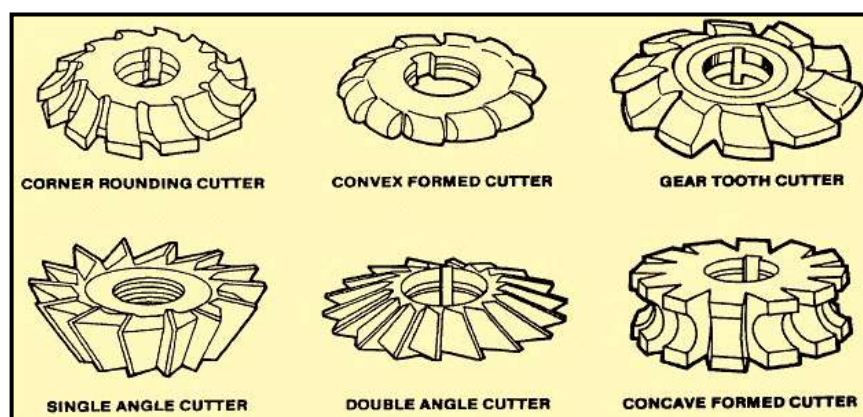

Figure 8-8. Angle, concave, convex, corner, and gear cutters.
**Angle Milling Cutters:** Has peripheral teeth which are neither parallel nor perpendicular to the cutter axis. Common operations performed with angle cutters are cutting V-notches and serrations. Angle cutters may be single-angle milling cutters or double-angle milling cutters. The single-angle cutter contains side-cutting teeth on the flat side of the cutter. The angle of the cutter edge is usually 30°, 45°, or 60°, both right and left. Double-angle cutters have included angles of 45, 60, and 90 degrees. (Figure 8-8).
**Gear Hob:** Is a formed tooth milling cutter with helical teeth arranged like the thread on a screw. These teeth are fluted to produce the required cutting edges. Hobs are generally used for such work as finishing spur gears, spiral gears, and worm gears. They may also be used to cut ratchets and spline shafts. (Figure 8-8).
**Concave and Convex Milling Cutters:** Are formed tooth cutters to produce concave and convex contours of 1/2 circle or less. The size of the cutter is specified by the diameter of the circular form the cutter produces. (Figure 8-8).
**Corner Rounding Milling Cutter:** Is a formed tooth cutter used for milling rounded corners on workplaces up to and including one-quarter of a circle. The size of the cutter is specified by the radius of the circular form the cutter produces, such as concave and convex cutters generally used for such work as finishing spur gears, spiral gears, and worm wheels. They may also be used to cut ratchets and spline shafts. (Figure 8-8).
**Special Shaped-Formed Milling Cutter:** Formed milling cutters have the advantage of being adaptable to any specific shape for special operations. The cutter is made especially for each specific job. In the field, a fly cutter is formed by grinding a single point lathe cutter bit for mounting in a bar, holder, or fly cutter arbor. The cutter can be sharpened many times without destroying its shape. (Figure 8-8).